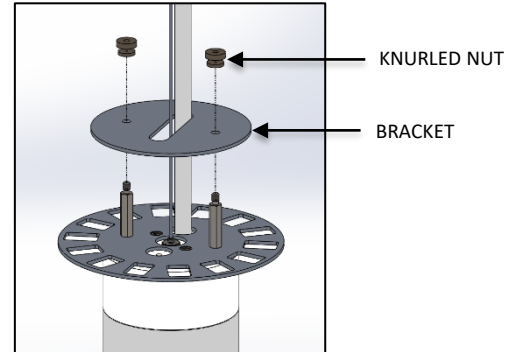

FIG. 23 – BRACKET DIS-ASSEMBLY
12. Remove the 2 KNURLED NUTS and raise the BRACKET COVER as shown in FIG. 23 below.